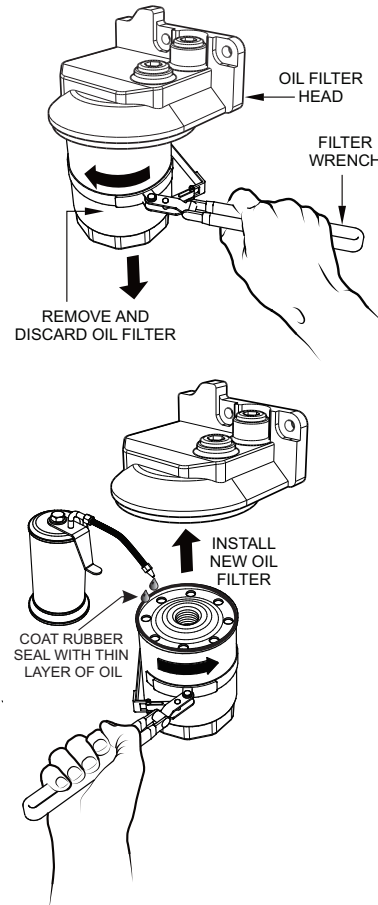

Figure 67. Oil Filter Removal
2. Using an oil filter wrench (Figure 67), remove the engine oil filter.
3. Coat the rubber seal (gasket) surface of the oil filter (Figure 67) with clean 15W-40 engine oil.